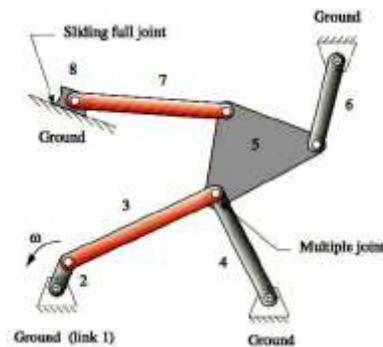

Figure 1
1. Draw the kinematic diagram and determine the degrees of freedom for the mechanism shown in figure 1. CO1 [K2]